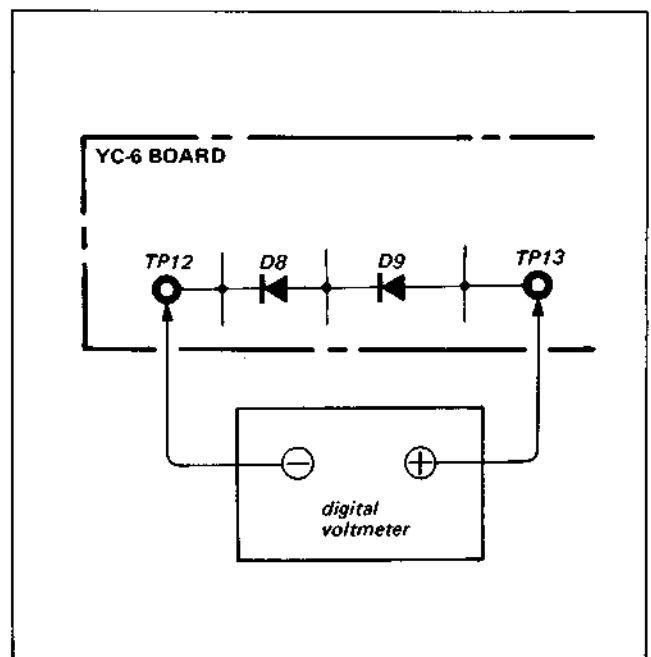

Fig. 4-4-8. Measurement points
- (1) Do not supply the VTR with any signal and set up the E-E mode.
- (2) Connect the digital voltmeter to the points shown in Fig. 4-4-8.